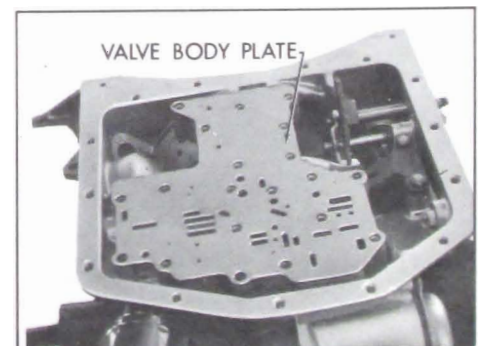

Figure 5-118
11. Remove valve body plate. See Figure 5-118.